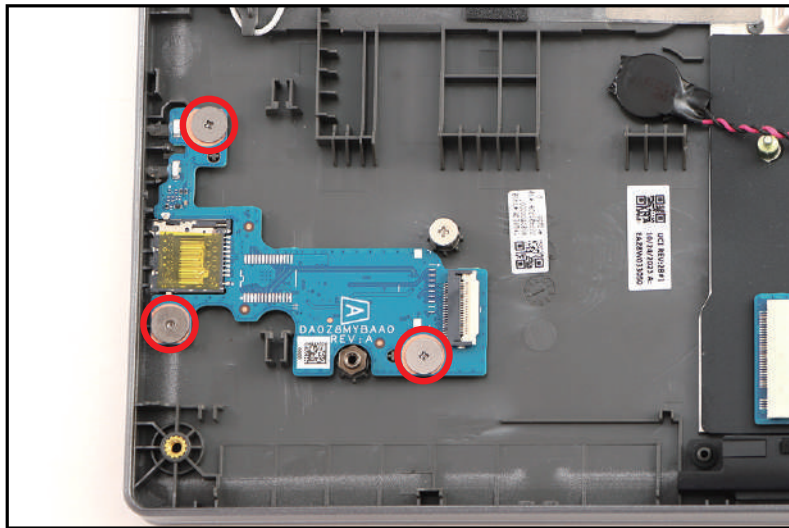

Figure 3-54. Card Reader Board Removal
- Remove three (3) screws securing the card reader board (Figure 3-54).